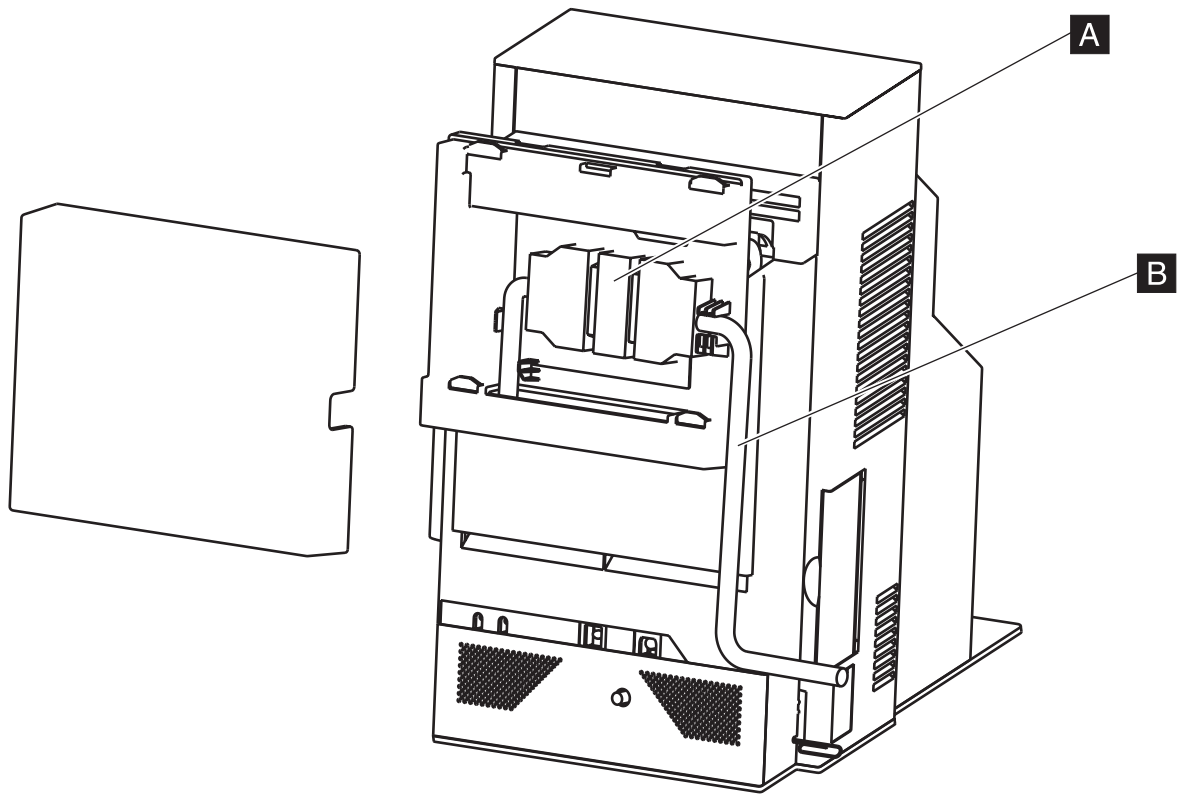

Figure 108. Tower end of remote display cable
8. See Figure 108 on page 133. Connect the tower end of the extension cable **A**, and the adapter **B** as shown.